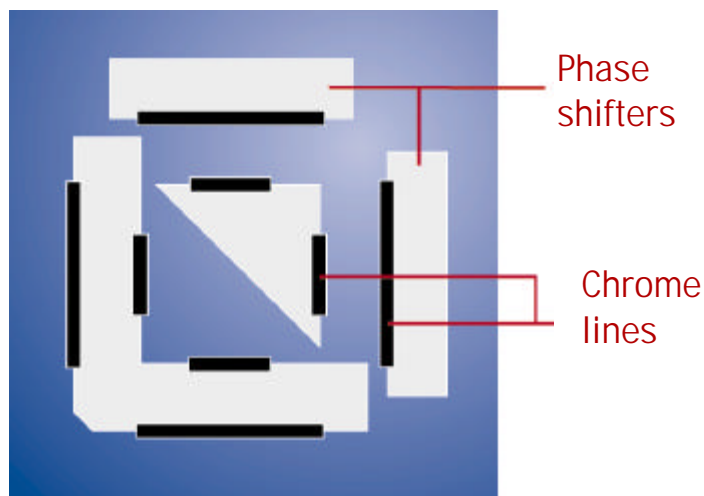

Figure 2: Phase Shifted Lines arranged in a Box-in-Box pattern
- ?? Recommended Feature for Measurement: Site A or B shown in Figure 2.